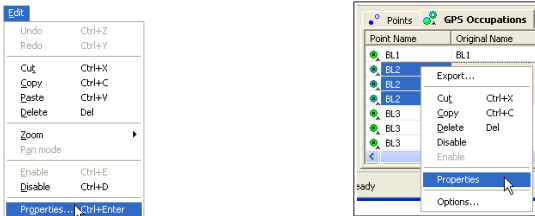

Figure 4-75. Display Properties Dialog Box
To view the *Properties* dialog box for selected single or multiple data types in the Tabular, Map, Occupation, or CAD view (Figure 4-75), do the following:
- Right-click a point/observation/occupation/line on the graphical or tabular view and click **Properties** (Figure 4-75).